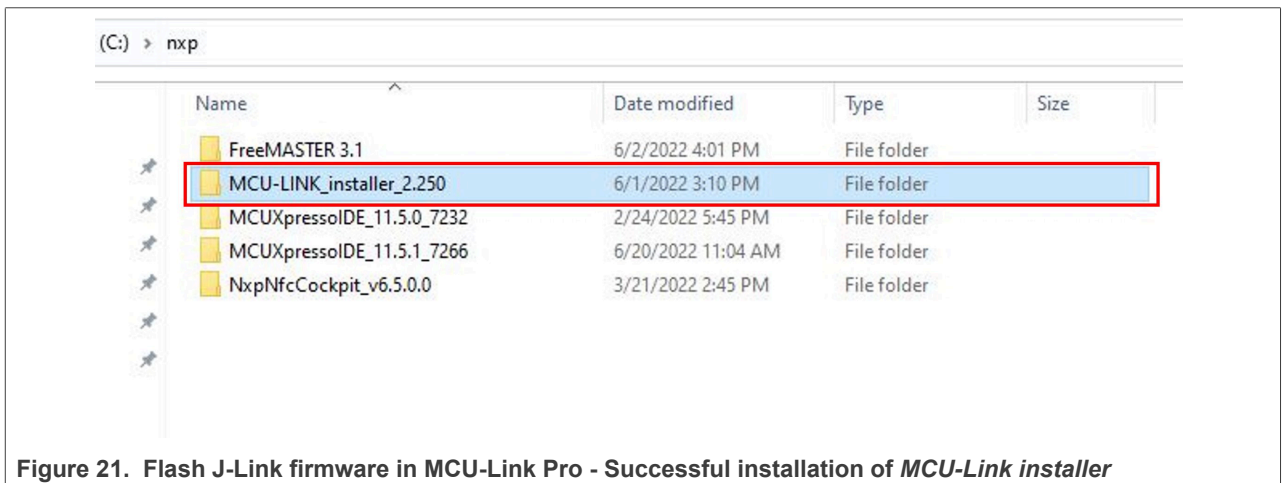

Figure 21. Flash J-Link firmware in MCU-Link Pro - Successful installation of *MCU-Link installer*
- Run the *MCU-Link installer* executable and follow the installation wizard. By default, the installer creates an *MCU-LINK\_installer* folder in *C:\nxp* as shown in Figure 21.